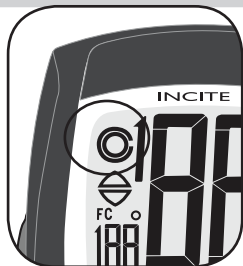

Figure 21- Wheel selection icons
*The wheel selection icon appears (Figure 21).